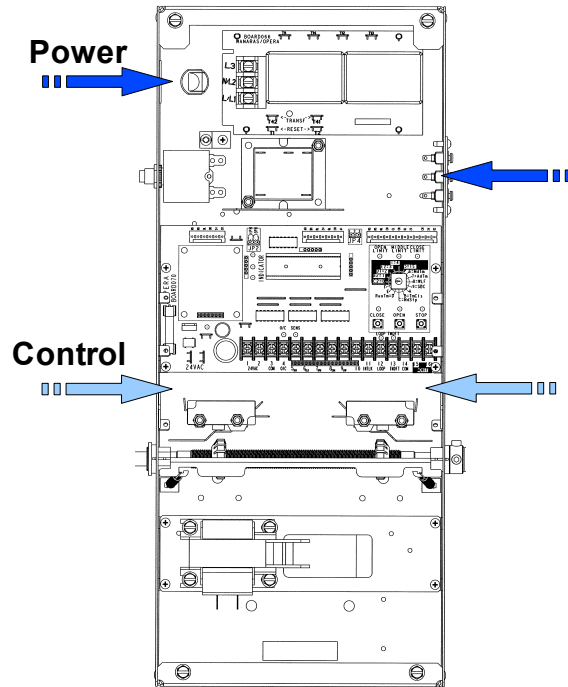

Figure 6 - Low Voltage (Controls) and High Voltage (Power) Connections
1. Route the power line wires either from the right or from the left of the control box, as shown in Figure 6.
2. Route all low voltage control wires, as shown in Figure 6. **KEEP LOW VOLTAGE WIRES SEPARATE FROM LINE VOLTAGE WIRES.**